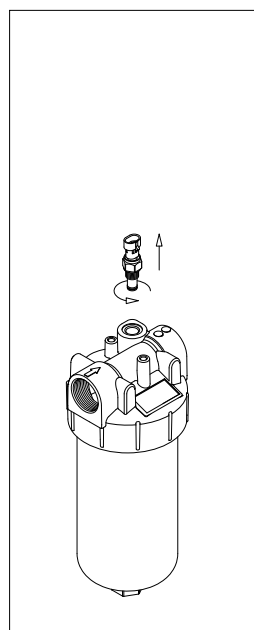

fig. 14
- (Fig. 14) Replace the O-rings of the indicator body.